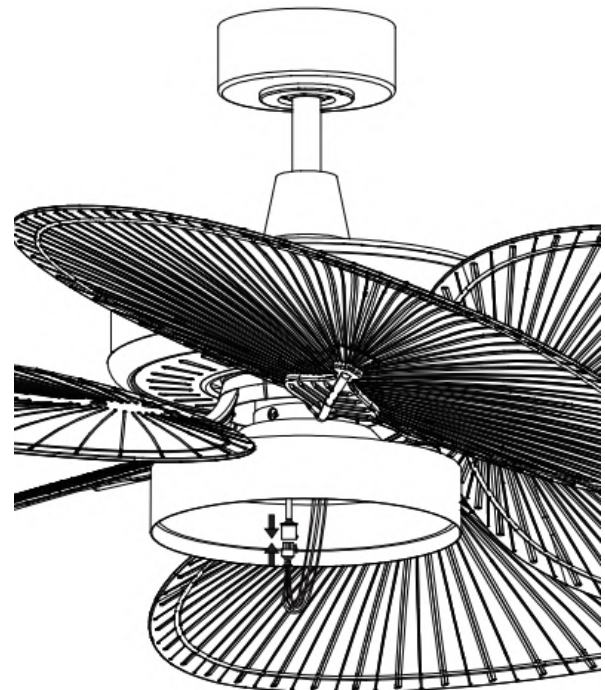

Fig. 10
- Connect the light fitting connector to the connector on the fan assembly. (Fig. 10)